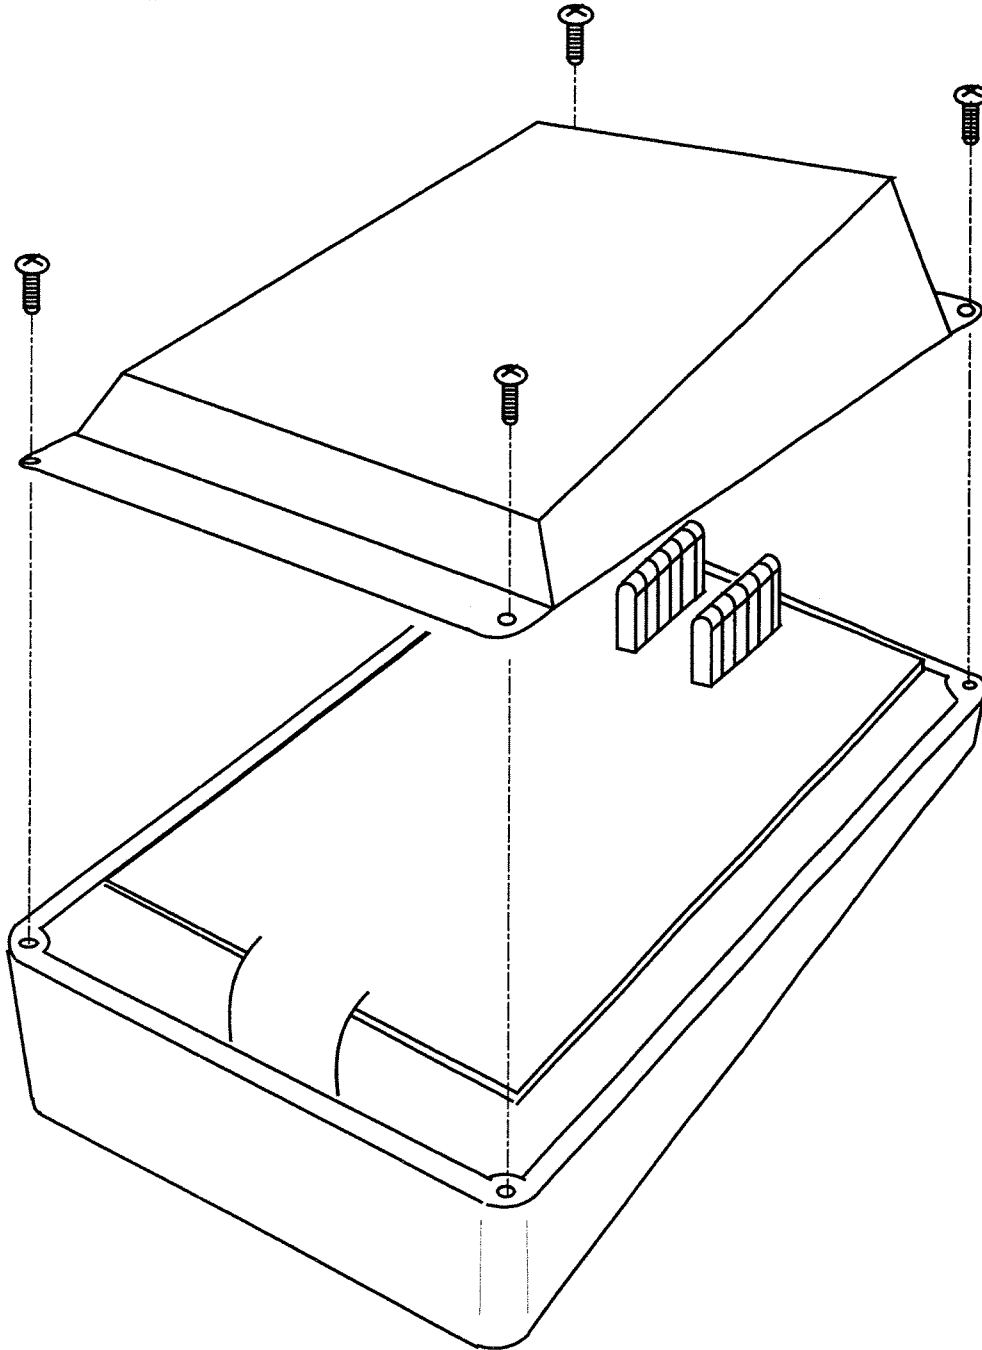

Figure 10.
6. Refer to Figure 10. Carefully assemble the back cover to the remote assembly, using the four black Phillips head screws provided (Do not use the setscrews or locknuts). Do not overtighten the screws. The gasket will seal without undue pressure.